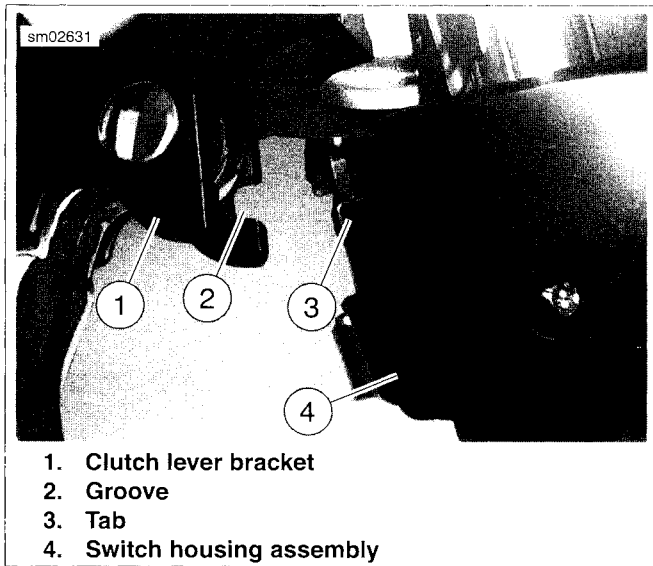

Figure 7-101. Clutch Lever Bracket
5. See Figure 7-101. Position the clutch hand lever assembly inboard of the switch housing assembly, engaging the tab (3) on the lower switch housing in the groove (2) at the bottom of the clutch lever bracket.